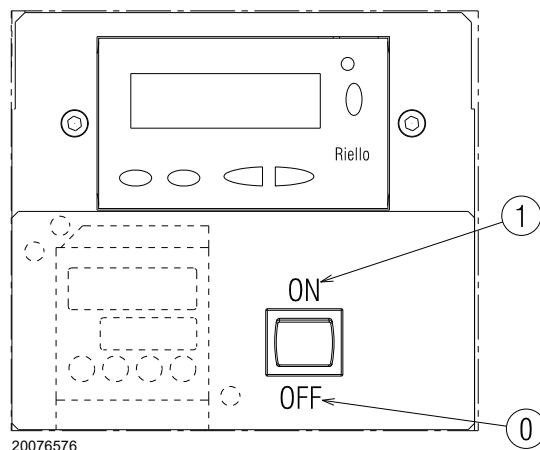

Fig. 27
Close the thermostats/pressure switches and set the switch of Fig. 27 to “1/ON”.
- put the switch of Fig. 27 to “0/OFF” and wait until the control box carries out the switching off phase;